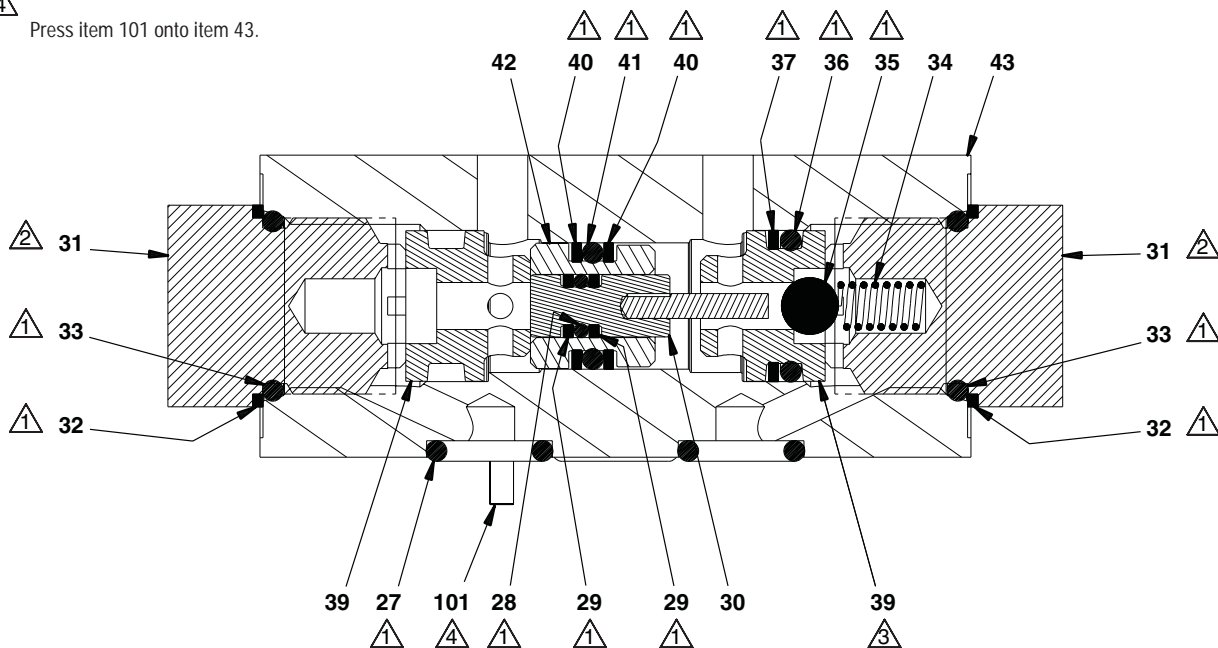
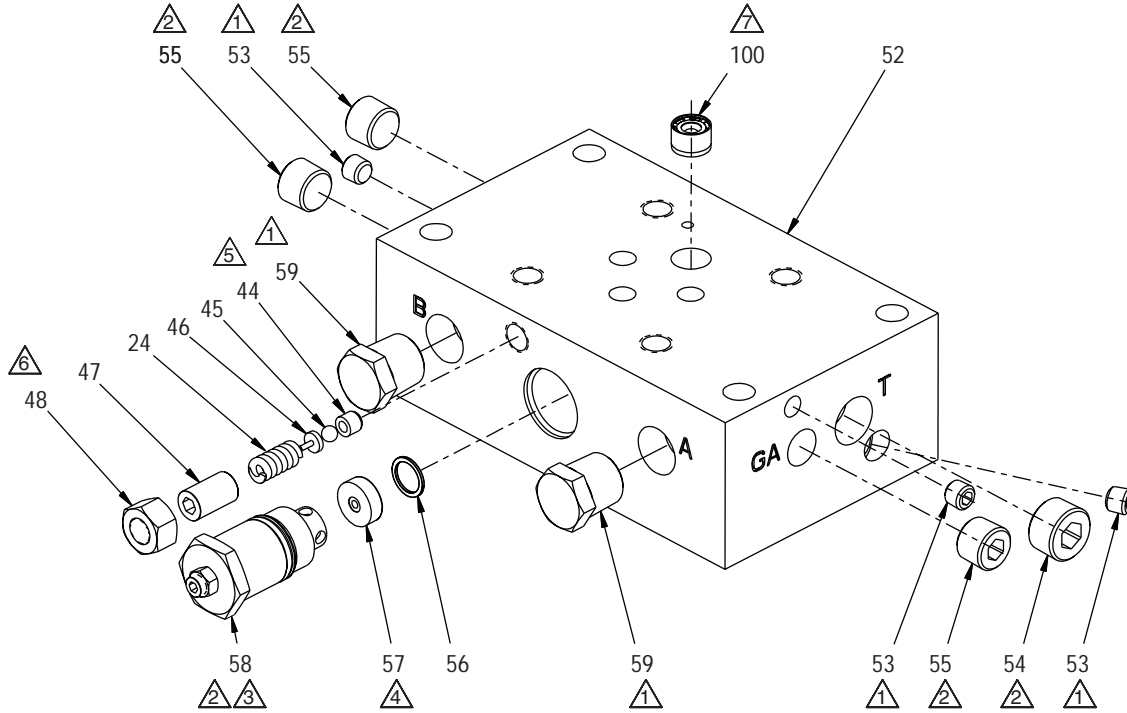
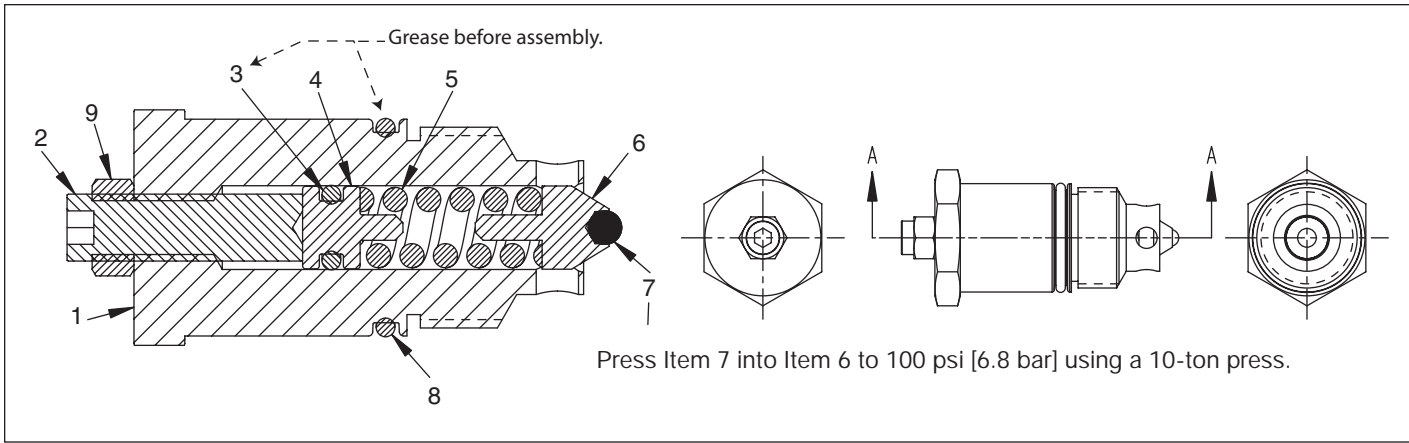

Figure 4, DC7296950SR Locking Power Seat Assembly (VM43-LPSV)
Figure 6, DC7295950SR Manifold Assembly
Figure 7, DC5139900SR, User Adjustable Relief Valve Assembly
Repair Parts List for Figure 4
Repair Parts List for Figure 6
Repair Parts List for Figure 7, DC5139900SR, User Adjustable Relief Valve Assembly
★ Items included in Repair Kit DC5139900SR. ▲ See Figure 6 & 6A, items 56 and 57.
1. Inability to obtain any pressure may be the result of damaged connector seals on the pump, or failed relief valve components (items 6, 7, figure 7) a damaged seat (item 57, figure 6), or damaged or worn shear seals and disc (item 80, 84, figure 3). These problems are usually a symptom of contaminated hydraulic oil. The system should be drained and refilled with fresh ENERPAC hydraulic oil.
5. Leakage observed on the external surfaces around the relief valve body (item 1, figure 7) is an indication that the o-ring (item 8) needs to be replaced.
12. Remove springs (item 87) and inspect for damage such as breakage or permanent set. Replace if needed.
14. Loosen lock nut (item 9, figure 7) and unscrew the set screw (item 2).
15. Using a 7/8" socket, loosen and remove the relief valve assembly (item 58, figure 6) from the body.
16. Remove the seat (item 57) from the body.
18. Inspect the o-ring (item 8, figure 7) for damage and replace if necessary.
19. Inspect the ball (item 7, figure 7) and guide (item 6, figure 7). Replace if necessary.
20. Remove nut (item 48, figure 6), set screw (item 47), spring (item 24), guide (item 46) and ball (item 45). Visually inspect seat (item 44). If damaged, use special tool DT1560-3 to lightly re-dress the seat. If the seat cannot be re-dressed, replace manifold (item 52).
21. Remove the pipe plugs (item 53, 54, 55) and clean the body. Inspect body for damages. Visually inspect check valve (item 100), but do not remove unless worn or damaged.
23. Remove o-rings (item 27, figures 4 & 5) and inspect for damage such as extrusion of material, cuts or cracks.
24. Remove plugs (item 31). Remove and discard gaskets (item 32). Inspect o-rings (item 33) for damage, such as extrusion of material, cuts or cracks.
25. Remove and discard ball (item 35).
26. Remove spring (item 34) and inspect for damage.
27. Remove seat (item 39 - opposite of ball end) using a magnet. Inspect for damage.
28. Using a brass punch (or other soft metal or plastic tool) push out cylinder (item 42), piston pin (item 30) and seat (item 39 - ball end) and remove these parts from the bore as an assembly. Be careful not to scratch or damage bore surfaces.
29. Remove piston pin (item 30) from cylinder (item 42). Inspect o-ring (item 28) and backup washers (item 29) for damage.
30. Remove o-ring (item 36) and backup washer (item 37) from seat (item 39 - ball end). Inspect for damage.
31. Remove backup washers (item 40) and o-ring (item 41) from cylinder (item 42). Inspect for damage.
1. Install pipe plugs (item 53, figure 6) and torque to 10-12 ft-lbs [14-16 Nm]. Install pipe plugs (item 54, 55) and torque to 32-39 ft-lbs [43-53 Nm].
2. Install copper gasket (item 56) onto seat (item 57), with round edges facing away from the seat.
3. Place seat (item 57) onto the bottom counter bore in the valve body, with the gasket side down. Note: make sure that the seat is firmly seated and not crooked.
4. Grease o-ring on relief valve assembly (item 58) and insert into cavity in the valve body.
5. Torque relief valve assembly (item 58) to 32-39 Ft-lbs [43-53 Nm].
6. Install ball (item 45), guide (item 46), spring (item 24), set screw (item 47), and nut (item 48).
7. Place o-ring (item 28) and backup washers (item 29) onto piston pin (item 30).